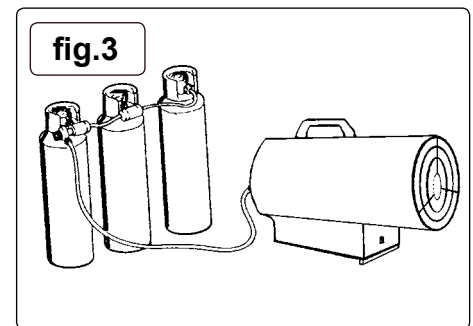

fig.3
- ✗ **DO NOT** apply heat to the cylinder. Consult your gas supplier regarding the provision of a multi-cylinder arrangement using the correct manifold (fig.3).